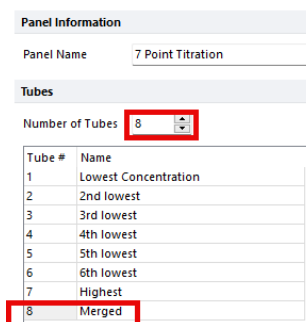

Figure 9 – Expanding the panel
- For the name for the new tube, enter “Merged” (*Figure 9*)